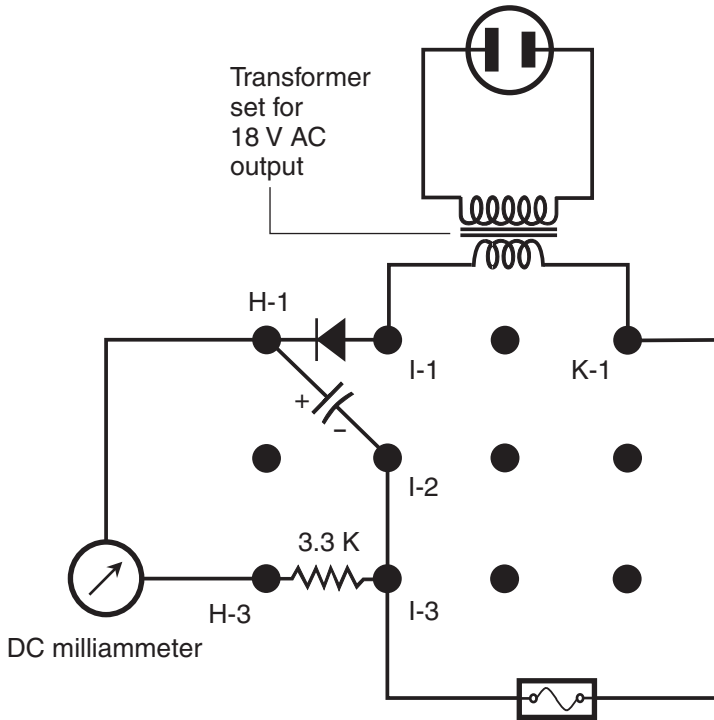

Figure AC12-1 *Measurement of the filtered output current through a load from the power supply alone.*
Switch off the power strip. Set the transformer output switch to its lower-voltage position. Take the capacitor and a 3-inch (in) length of fine, bare copper wire and interconnect the components as shown in Fig. AC12-1. Wrap the capacitor's positive lead around H-1, which also goes to the rectifier's cathode. Wrap the capacitor's negative lead around I-2. Wrap the length of bare wire around I-2 and I-3 to connect the negative side of the capacitor directly to the "non-transformer" side of the fuse. Place a 3.3-kilohm (K) resistor between H-3 and I-3. Before applying power, use your ohmmeter to measure the actual resistance. Mine tested at 3.25 K.
Plug the transformer into the power strip. Set your meter for DC milliamperes. Apply power to the system. Hold the positive meter probe tip against H-1 and the negative meter probe tip against H-3, as shown in Fig. AC12-1. Check the current. I observed 8.72 milliamperes (mA) through the load resistor.